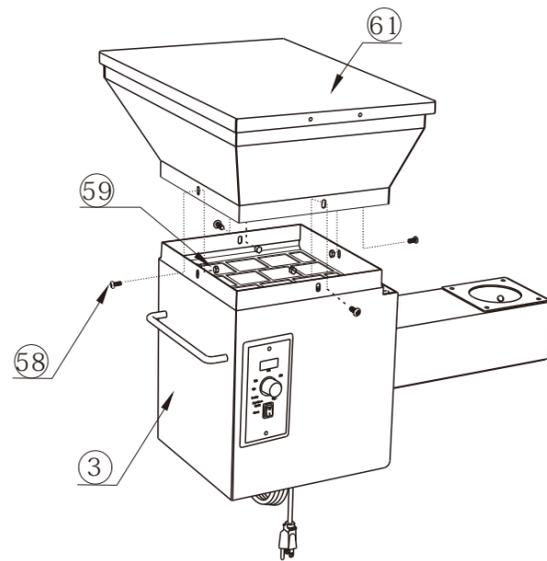

Figure 5
Insert Hopper Assembly II(61) into Hopper Assembly I(3), align the holes as shown in FIG 5. Insert the 5/32-32*6mm Bolts(58) through the holes in the Hopper and 5/32-32 Hexagon Kep Nuts(59), then open the Hopper Lid and tighten it from inside. The four sides are installed in the same way.